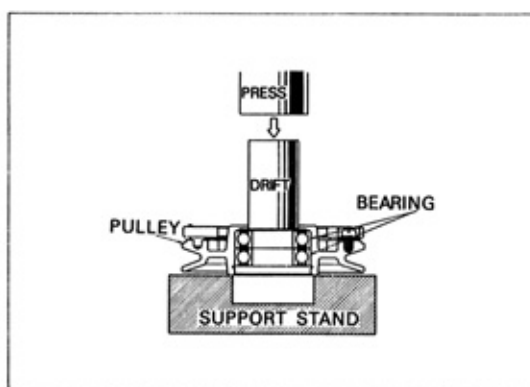

Fig. 74
- b) Place the clutch pulley on the support stand with pulley side down, and press two bearings from the clutch pulley. See Fig. 74.